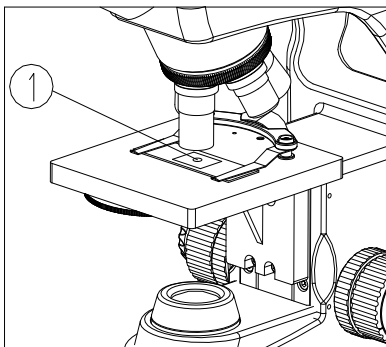

Fig. 12
2. Place a drop of oil ① on the specimen observed (see Fig. 12).